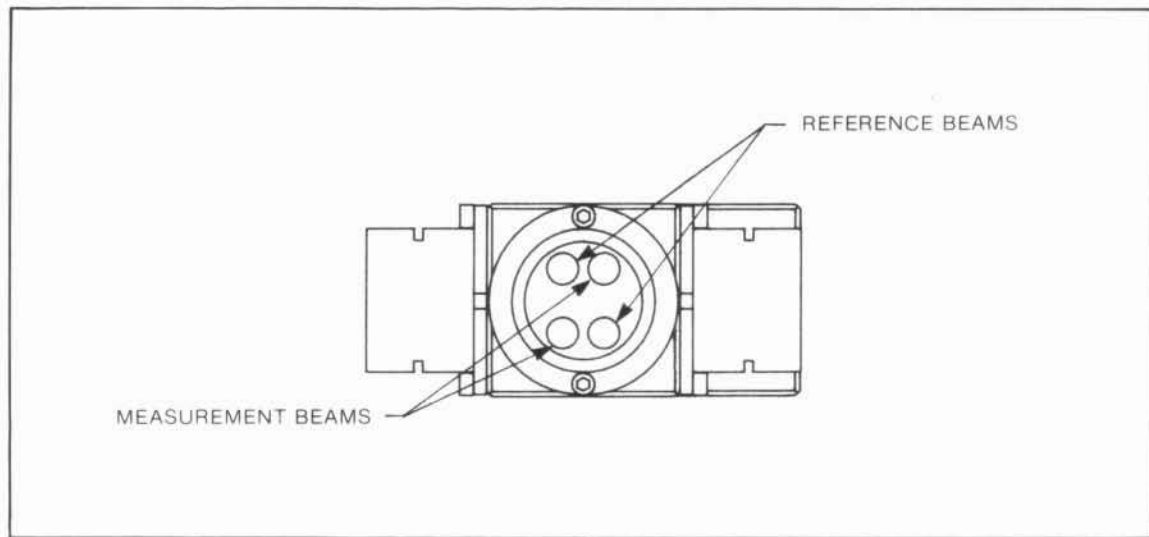

Figure 6-41. Differential Interferometer as Viewed from Plane Mirrors with Proper Alignment
- m. Remove the alignment aid. Both measurement and reference beams should now exit the interferometer aperture in diametrically opposite positions. Switch to large aperture. (See Figure 6-41.)